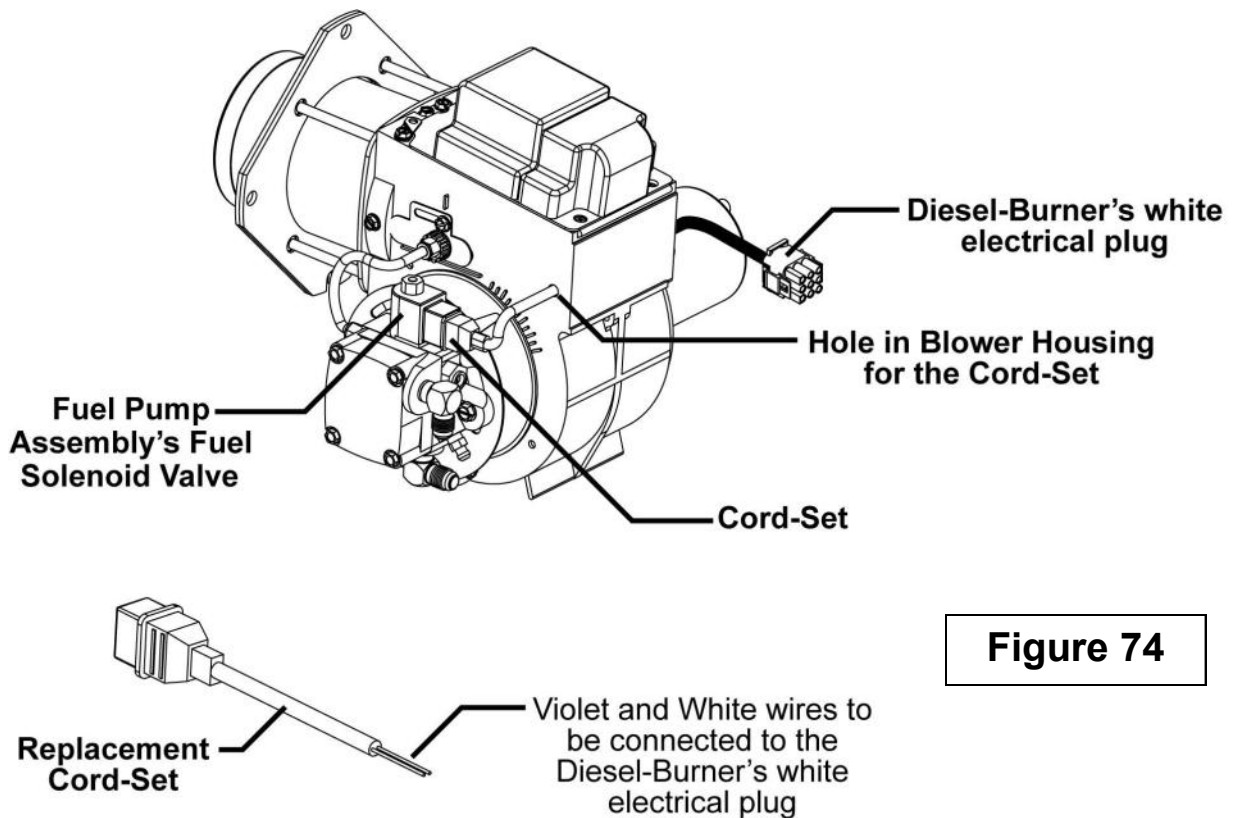

Figure 74
3. Work the wires and Cord-Set out and away from the Diesel-Burner; reference Figure 74.